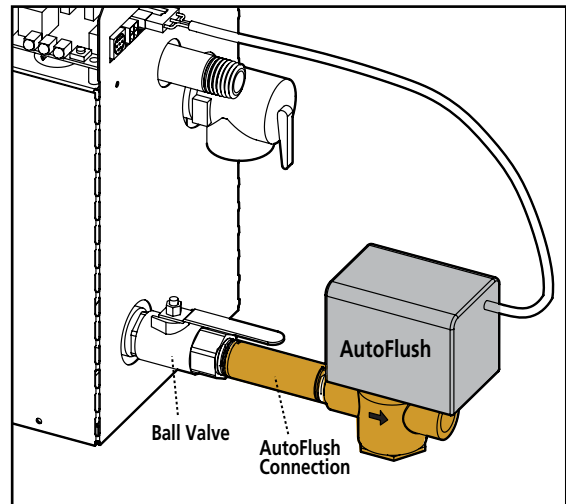

Figure 1
1. Inspect all plumbing lines. Drain line should have its own dedicated line. Make sure the AutoFlush® line (Fig. 1) does not connect with any other line. All lines from the MrSteam unit should be separate from one another.